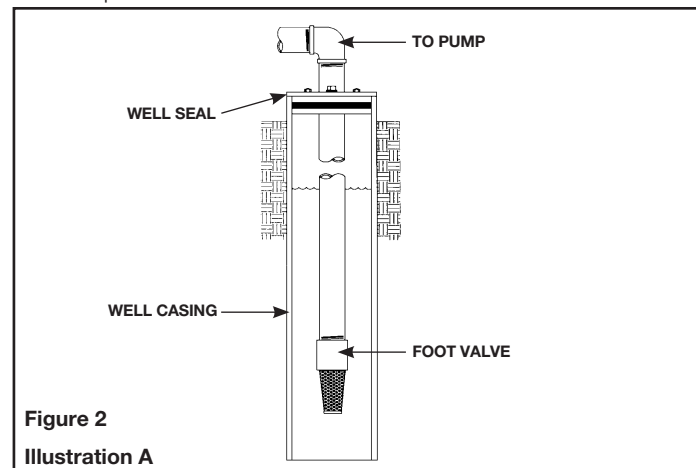

Figure 2
A shallow well pump can be used when the pump is located less than 25 feet vertically of the water level. Shallow well pumps have only one pipe between the pump and the water supply (Figure 2).
1. Install a foot valve on the first section of pipe (Figure 2, Illustration A).
**NOTE:** A packer type foot valve can be installed in the well (Figure 2, Illustration B). This type of foot valve allows the well to be filled with water when priming and makes the inlet pipe much easier to test for leaks. Follow the manufacturer's instructions when installing the packer type foot valve.
As an alternative, an in-line check valve can be used with a driven well (Figure 2, Illustration C). The pipe between the check valve and the water level will always be under a vacuum.